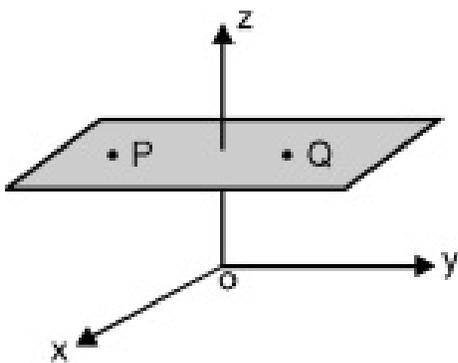

Fig. 6.1.1 : $Z = \text{Constant}$ plane
- Consider a plane perpendicular to the z-axis as show in Fig. 6.1.1. As, z-axis is vertical, a plane normal to z is horizontal, also xy plane is horizontal. Therefore xy plane and plane under consideration are parallel.